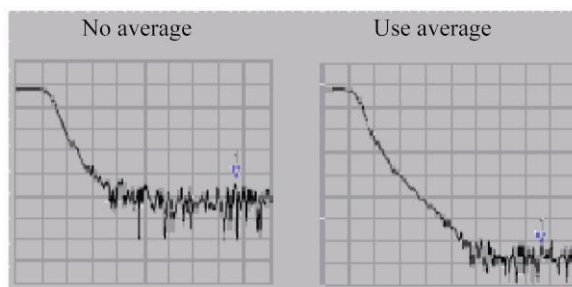

Fig. 6.5 Influence of Scanning Averaging on Measurement Results
- The more times averaging is done, the more noise will be reduced, and the larger the dynamic range will be. As shown in Fig. 6.5, sweep averaging has influence on measurement results.